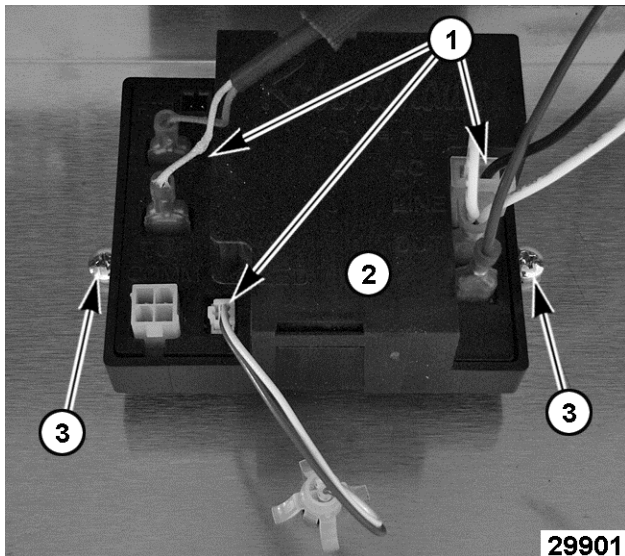

Fig. 4
- Note wire connections (1, Fig. 4) then disconnect them from temperature controller (2, Fig. 4).
- Loosen screws (3, Fig. 4) securing knob guard to control panel to provide clearance for knob removal.